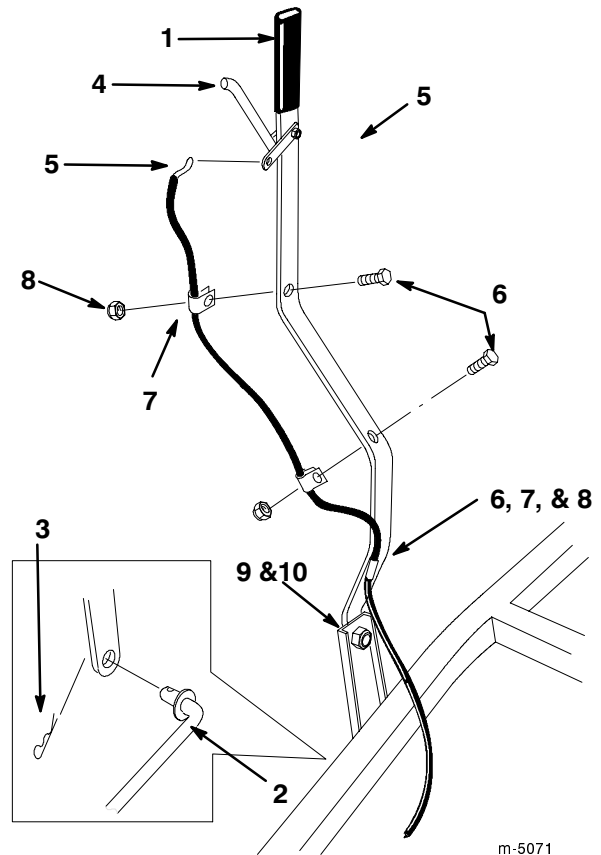

Figure 7
11. Attach the control handle to the pivot support using the 1/2-13 x 1 in. (25 mm) pivot bolt. Screw the bolt into the pivot support until the handle is snug and then back it off slightly to let the handle pivot freely (Fig. 7).
12. Secure the bolt with a jam nut (Fig. 7).
14. Insert the control rod through the handle end and secure it with a large hairpin cotter (Fig. 7).
15. Connect the Z-fitting on the end of the cable to the release lever (Fig. 7).
22. Pull down on the cable jacket to remove slack and secure the cable to the handle using three cable clips, three 1/4 x 1 in. (25 mm) bolts, and three 1/4-20 in. locknuts (Fig. 7).
8. Remove the hairpin cotter and control rod from the control handle (Fig. 7).